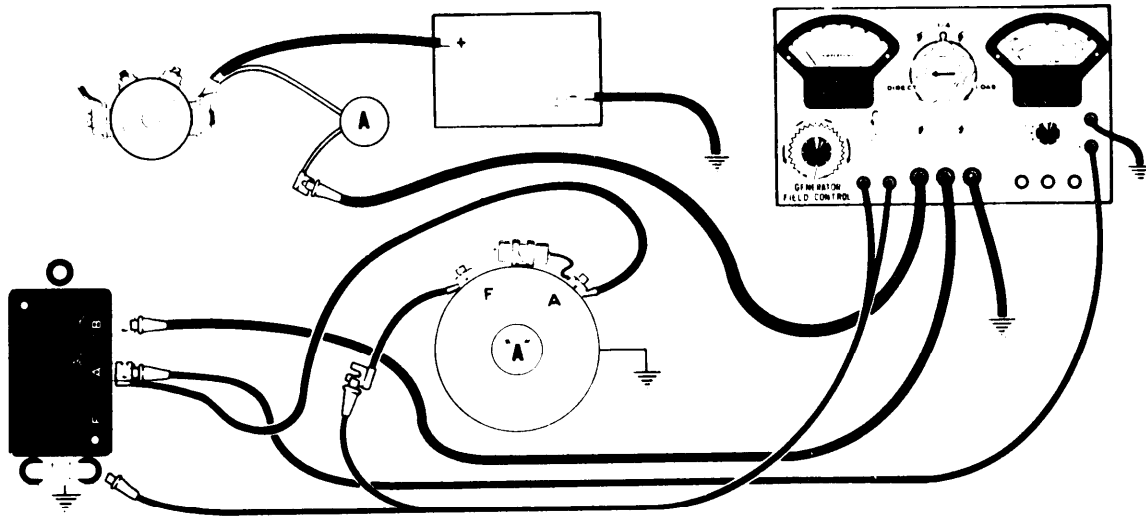

Figure 3. Externally Grounded Generator (A Circuit), Test Connections
The externally grounded field type has one wire of the field circuit connected to the hot armature terminal inside the generator with the other wire grounded outside the generator through the voltage regulator contacts, thereby completing the field coil circuit. Externally grounded field types manufactured by Auto-Lite and Delco-Remy are commonly found on passenger cars and the majority of trucks (Auto-Lite Standard Duty). See Figure 3 for test connections for an externally grounded generator (A Circuit).
- e. If the D.C. Ammeter indicates after step d. above, then the generator is an externally grounded type and the diagram of Figure 3 applies.
5-2. CUTOUT RELAY TEST—See Figure 3.